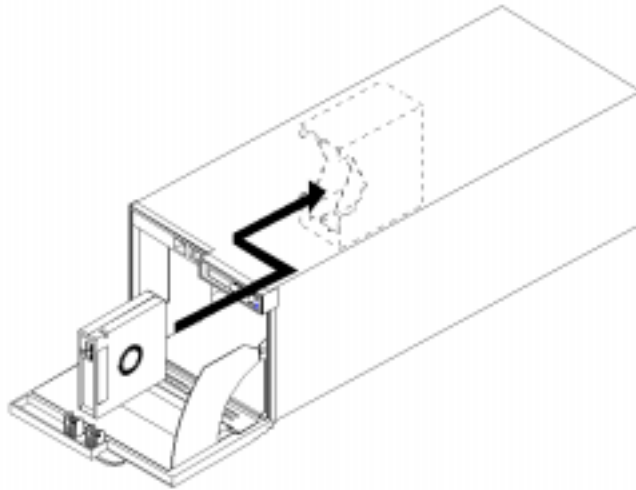

FIGURE 3-3 Internal Slots
2. With the write-protect switch facing out of the Autoloader and at the top, load internal slots by pushing the tape in until it “clicks.” The magazine must be removed to load the internal slots (FIGURE 3-3).